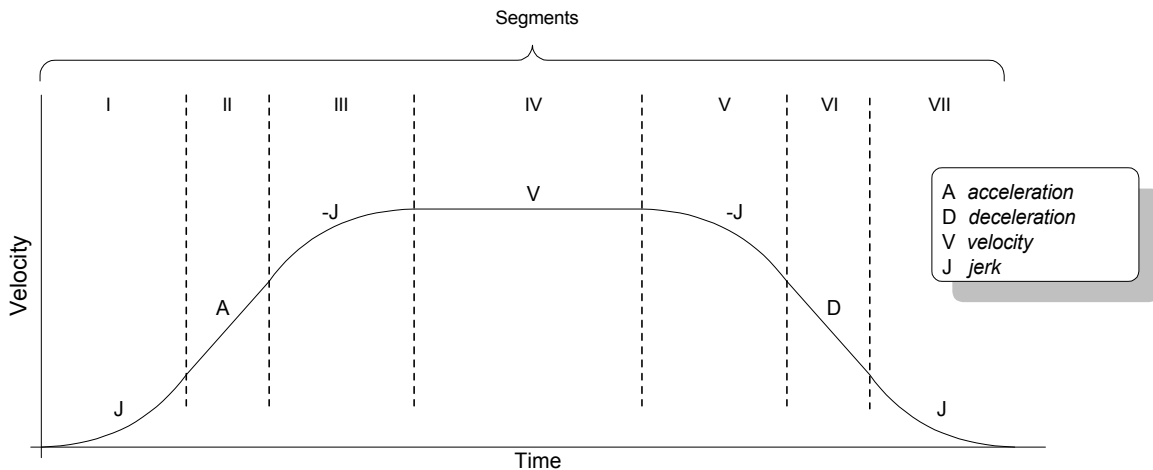

Figure 3.3-1 S-curve profile
Figure 3.3-1 shows a typical S-curve profile. In Segment I, the S-curve profile drives the axis at the specified jerk (J) until the maximum acceleration (A) is reached. The axis continues to accelerate linearly (jerk = 0) through Segment II. The profile then applies the negative value of the jerk to reduce acceleration to 0 during Segment III. The axis is now at maximum velocity (V), at which it continues through Segment IV. The profile will then decelerate in a manner similar to the acceleration stage, using the jerk value first to reach the maximum deceleration (D), and then to bring the axis to a halt at the destination.